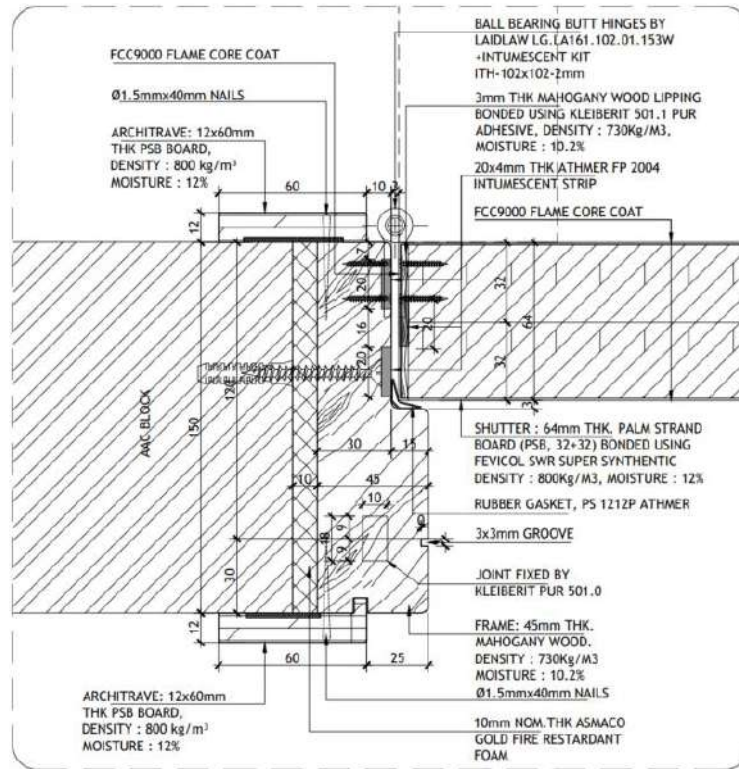

Figure 3. Vertical Jamb Details
The doorset consisted of a door frame with a cross-section of 45 x 150 mm, as shown in Figures 3 and 4. The frame was made of African Mahogany hardwood with a nominal stated density of 730kg/m³ (670kg/m³ calculated by ESL Certification) and a stated moisture content of 10.2%, manufactured from African Mahogany Wood and supplied by Danube Building Materials FZCO. The jambs and head of the door frame were joined at the corners using miter joints, secured with one (1) Ø8 x 72 mm long and one (1) Ø8 x 63 mm fine thread stainless steel drywall screws manufactured by MT Werkz, positioned at each frame head. Additionally, the frame components were bonded together using wood glue (pH 5-7, specific gravity 1.1 kg/liter) produced by Ritver Paints & Coatings. A single coat of FCC-9000 Flame Core Coat, supplied by MVL Fire Stop, was applied to both the exposed and unexposed faces of the frame, including the rebate section, using a roller.
The 12 x 60 mm architrave was installed on both sides of the door frame jambs using three (3) Ø1.5 x 40 mm nails, with a center-to-center spacing of 884 mm. Additionally, the 12 x 60 mm architrave affixed to the top of the frame with three (3) Ø1.5 x 40 mm nails on each side, positioned approximately 115 mm from both edges, along with an additional nail at the center. The architrave on the closing side included an extension designed for a pressure-fit, ensuring a secure attachment to the frame, as illustrated in Figures 3 and 4.
The door leaf was constructed from a 64 mm thick Desert Board PSB FR, which featured 3mm thick African Mahogany wood lipping on all sides. The Desert Board PSB FR, produced by Al Talah Board Manufacturing Co. LTD, had a nominal stated density of 800kg/m³ (803kg/m³ calculated by ESL Certification) and a stated moisture content of 12%. It was composed of two (2) 32 mm layers that were bonded together using Fevicol SWR super synthetic resin adhesive, manufactured by Pidilite Industrues, as shown in Figure 3 and 4. A single coat of FCC-9000 Flame Core Coat, manufacturer and supplied by MVL Fire using roller was applied to both sides of the leaf, including all four edges, using a roller. The graphite liner at the bottom of the leaf was also applied with the Flame Core Coat.
Additionally, the 3 mm thick African Mahogany wood lipping, supplied by Danube Building Materials FZCO, had a nominal stated density of 730kg/m³ (670kg/m³ calculated by ESL Certification) and a stated moisture content of 10.2%. It was securely attached to the edges of the core using Kleiberit 501.0 PUR adhesive, manufactured by Klebchemie M.G Becker GmbH & Co., as shown in Figure 3 and 4.
- Two (2) 20 x 4mm thick intumescent seals (Athmer FP 2004- brown color), manufactured by Athmer, were installed 7mm from the opening edge and 29mm apart. (see Figures 3 and 4).
- A single winged corner seal (PS1212P – brown color) produced by Athmer has been installed on all three sides of the frame. (see Figures 3 and 4).
- One (1) 20 x 4mm thick intumescent seals (Athmer FP 2004- brown color), manufactured by Athmer, were installed 7mm from the opening edge and 29mm apart. (see Figures 3 and 4).
A 10mm gap between the door frame and the supporting structure was filled with Asmaco Gold Universal Multifoam (B1) Fire Retardant manufactured by Asmaco and supplied by Anchor Allied Factory LLC. Additionally, Ø8 x 100mm self-tapping screws with Klimax plastic anchors were installed approximately 500mm apart, in five (5) vertical locations on both jambs as shown in Figure 3.